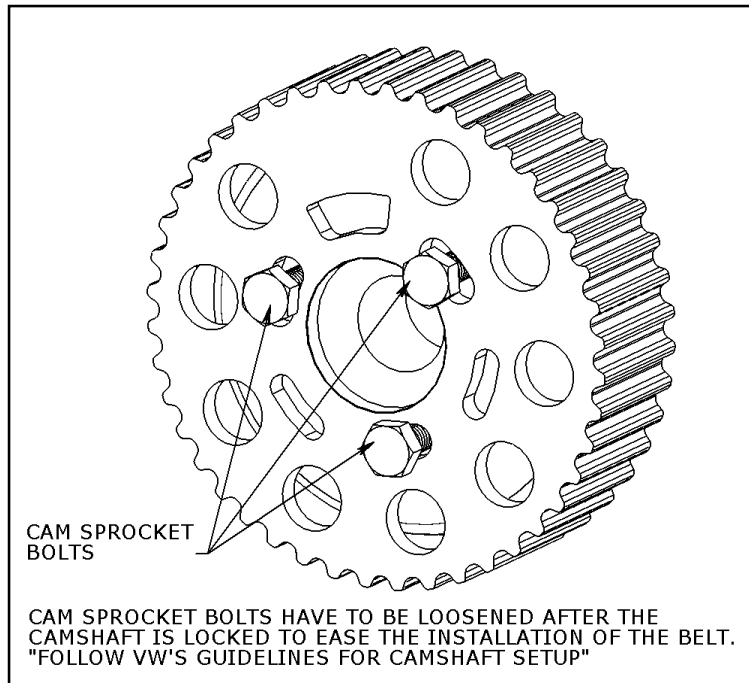

Figure 2: Camshaft sprocket
- Both Cam sprockets' bolts have to be loosened to allow for the free rotation of the camshaft sprockets, which will install the belt with ease (Figure 2). Follow VW's guidelines for procedure.